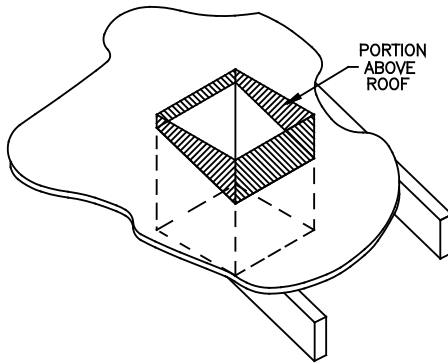
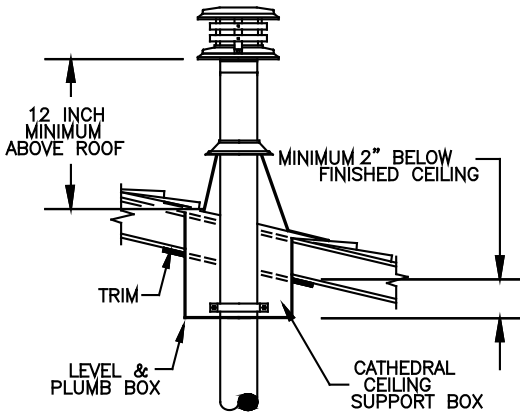

Figure 30
Figure 31
6. Run the Support Box through the roof as shown in (*Figure 30*), and place it so that the bottom of the Support Box protrudes at least 2 inches below the low side of your opening in the finished ceiling (*Figure 31*). Align the Support Box vertically and horizontally with a level. Temporarily tack the Support Box in place through the inside walls and into the roof sheathing.